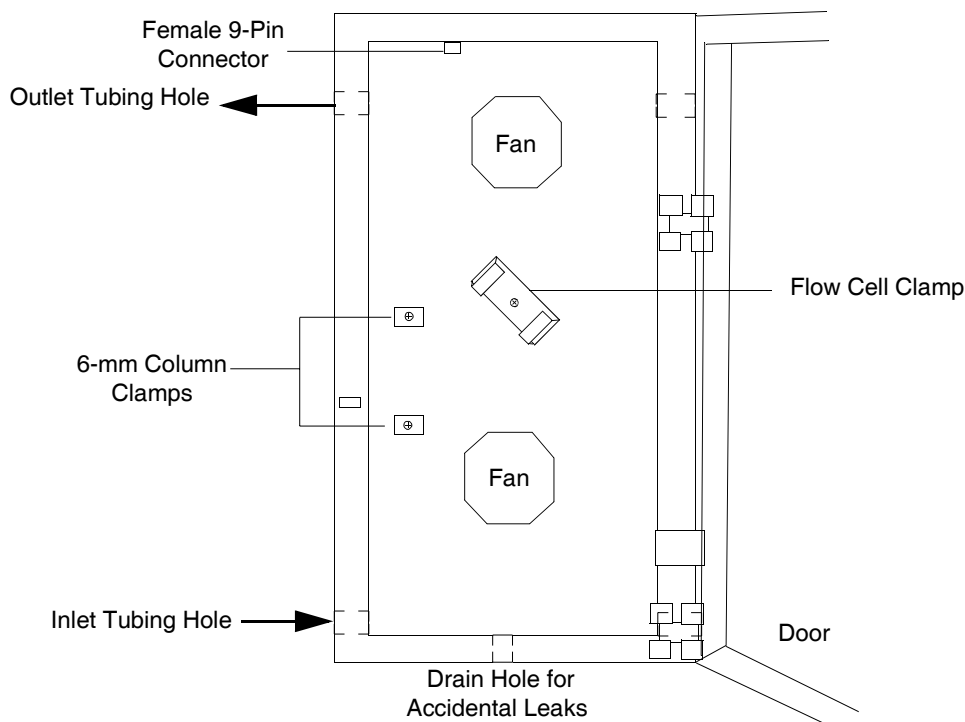

Figure 2-7 2465 Detector Oven
1. Remove any tape or protective straps or foam packing from the detector and open the door from the left side (Figure 2-7).